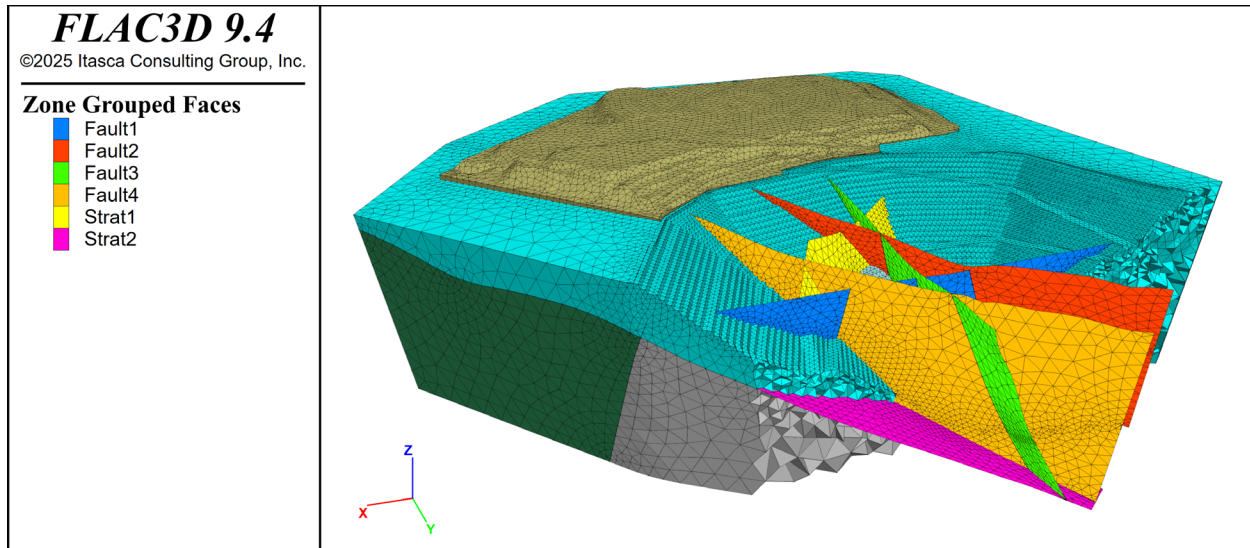

Figure 89: Tetrahedral volume mesh of open pit mine model.
37. Create a tetrahedral volume mesh in *FLAC3D* binary format by running **GVol** () with *Mode* = *Tet*. Keep all other **GVol** parameters at default values. Tetrahedral volume mesh generation is usually a fast process, and it is used here. In case **GVol** issues a message about the presence of naked edges, read the message and press **Yes** to continue. The final mesh is shown in Figure 89.